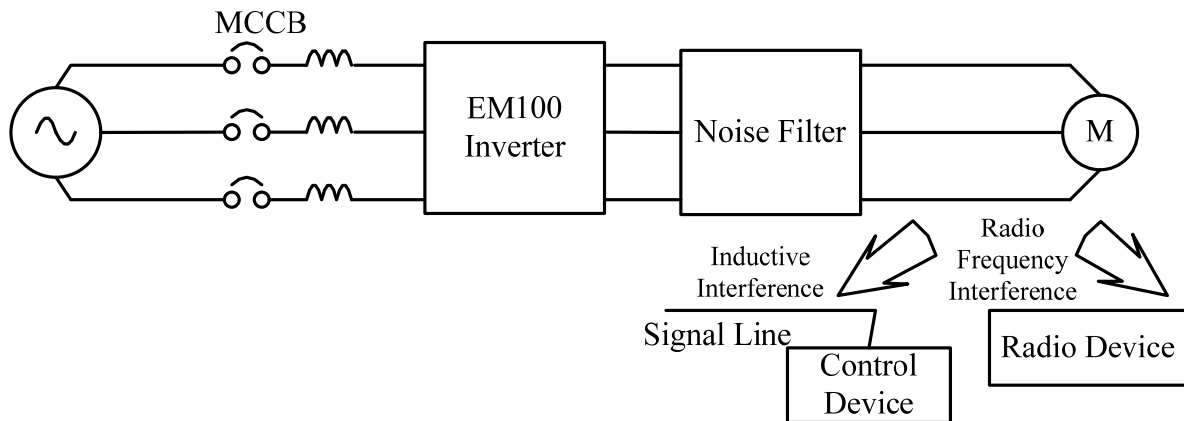

Figure 3-9 Installing a Noise Filter on the Output Side
- See Figure 3-9 for installing a noise filter on the output side.